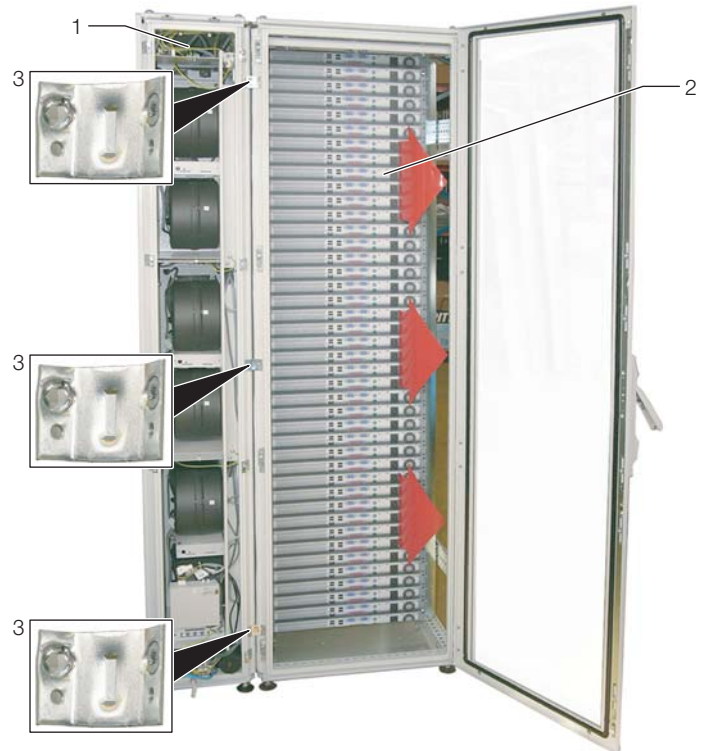

Fig. 20: Liquid Cooling Package Inline on a server enclosure – rear
- Using assembly screws, fasten three baying connectors each (Fig. 20, item 3) onto the intended attachment points in the frame on the front and rear sides of the Liquid Cooling Package Inline (Fig. 20, item 1).
- Using the corresponding assembly screws, fasten the baying connectors (Fig. 20, item 3) onto the intended attachment points in the frame on the front and rear sides of the server enclosure (Fig. 20, item 2). As needed, press the Liquid Cooling Package Inline lightly against the server enclosure in order to bring the baying connectors into alignment with the attachment points.